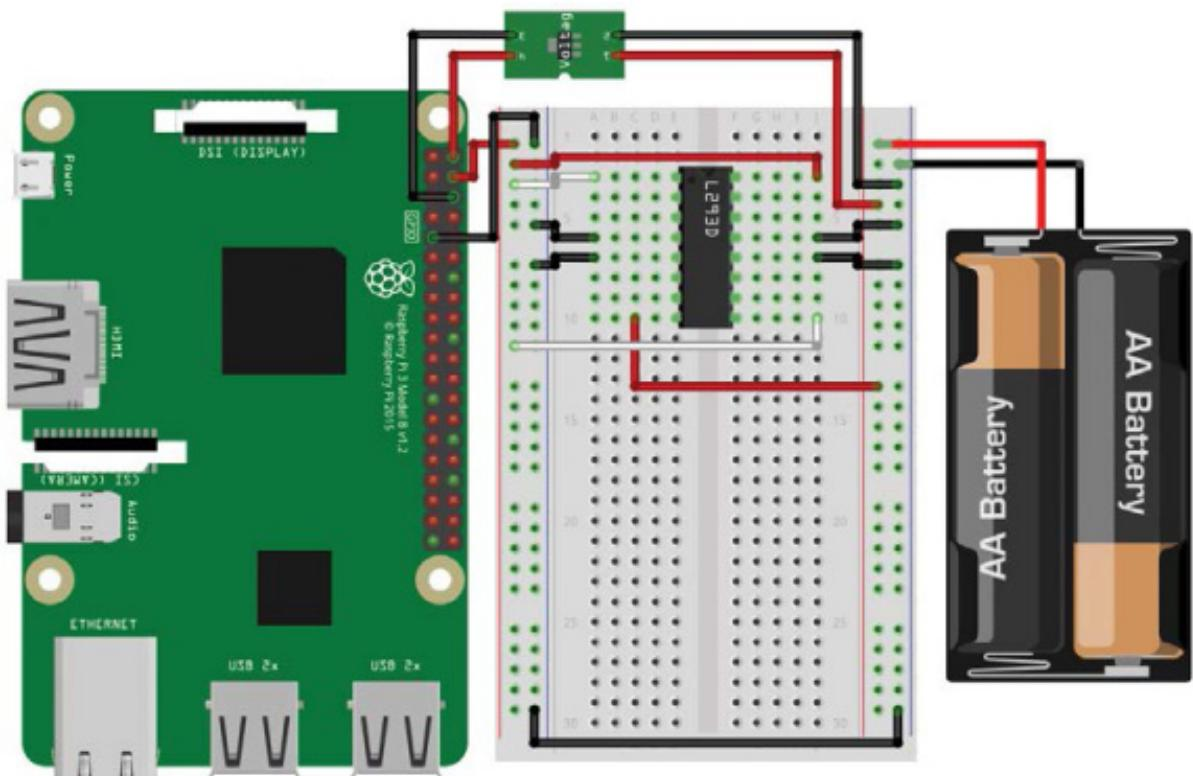

FIGURE 3-26 Connecting the L293D's Enable pins to a high voltage by connecting them to the Pi's 5 V power rail
6. Now it's time to connect the power for the motors, which will come directly out of your battery pack. Wire the positive +7 V to 9 V power rail connected to your battery pack to pin 8 (VCC 2) on your L293D. Instead of being the chip's power supply, this time this is the motor's power supply. Figure 3-26 shows this connection.
7. The L293D has two *Enable* pins. If these aren't on (in other words, if they are not receiving a high voltage), then any motor wired up to your L293D won't respond to commands. To turn the Enable pins permanently on, connect pin 1 (Enable 1,2) and pin 9 (Enable 3,4) of your L293D to the positive power rail connected to 5 V on the Pi. I have used white wires in Figure 3-26 to show this step.